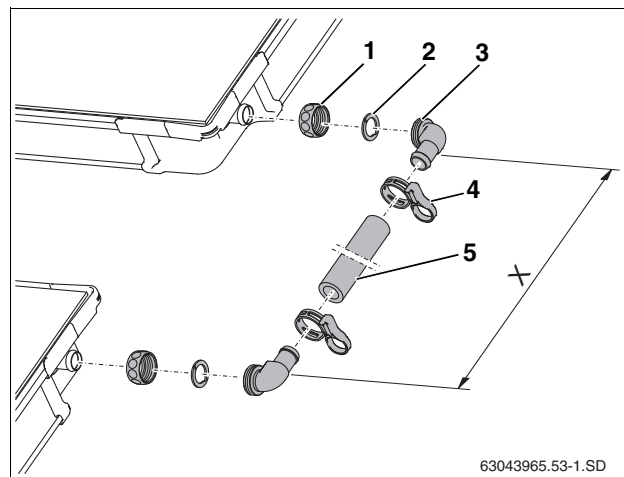

Fig. 56 Connection set between two collector rows
- ▶ Push union nut (Fig. 56, [1]) over the collector connections.
- ▶ Place the slotted lock washer (Fig. 56, [2]) behind the bead on the collector connection and press together.
- ▶ Press hose adapter elbow (Fig. 56, [3]) onto connection, align and tighten the union nut.
- ▶ Measure distance between the elbows (dim. X) once the collectors are installed, and cut the solar hose (Fig. 56, [5]) to size accordingly.
- ▶ Attach solar hose to the elbows and secure using hose clamps (Fig. 56, [4]).